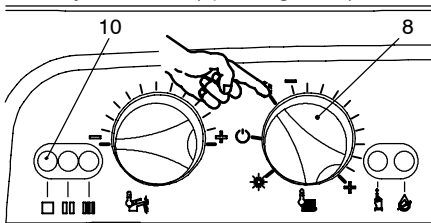

Fig. 2.4
- 2 Turn on the electricity supply to the boiler, switching on the fused spur isolation switch. The appliance operation light 10 (Fig. 2.4) will flash every 4 seconds (stand-by condition).
- 3 If the boiler is to be used for c.h. and d.h.w., position the function selector 8 as in Fig. 2.4. The appliance operation light 10 will flash every 2 seconds (operating boiler).